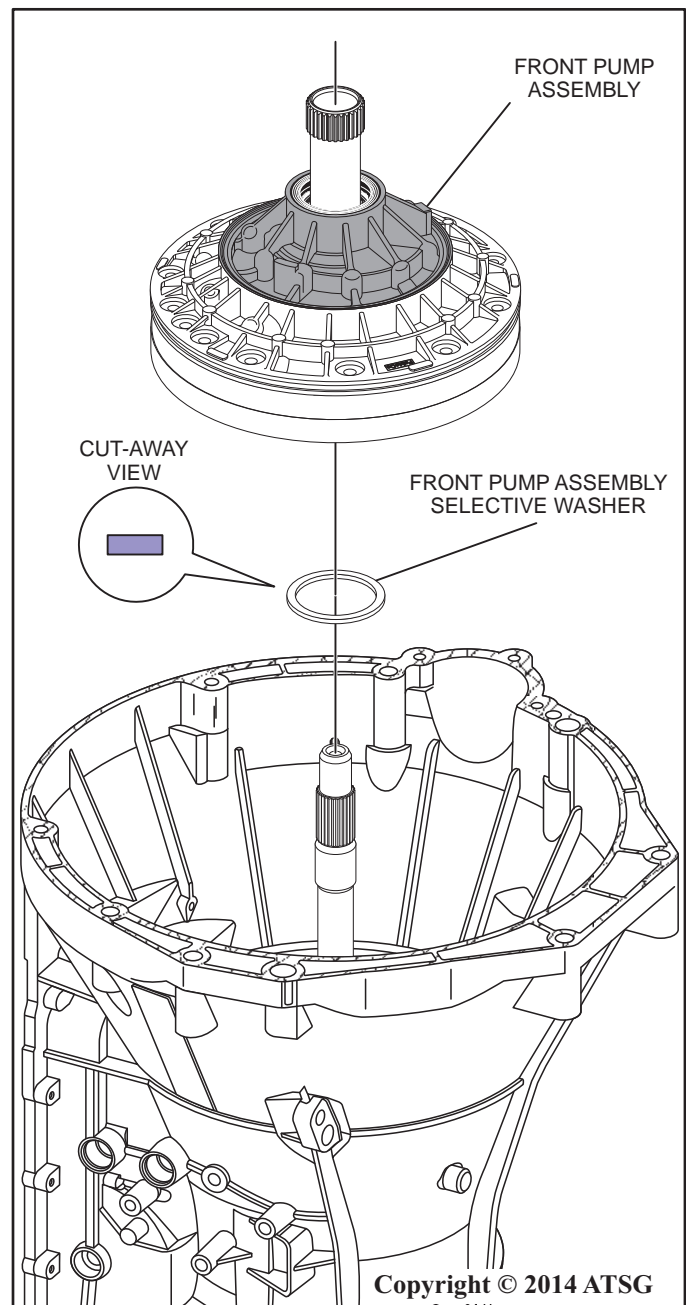

Figure 143
31. Install the front pump assembly into the transmission as shown in Figure 143.
35. If end play is not within specification, install a thicker or thinner selective washer on the pump assembly. Refer to Figure 143.